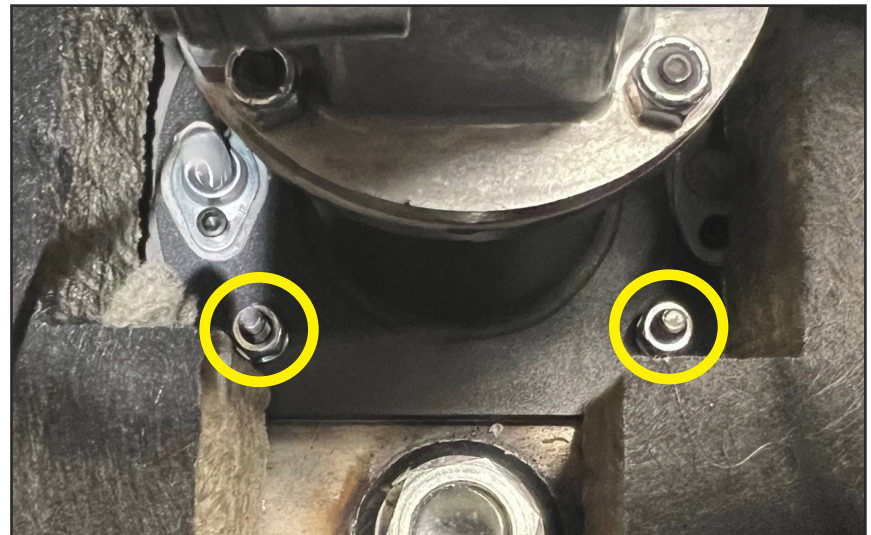

Fig. 45
13. Remove and retain the four nuts with lock washers from the base of the transition tube with a 7/16" socket (Fig. 45).